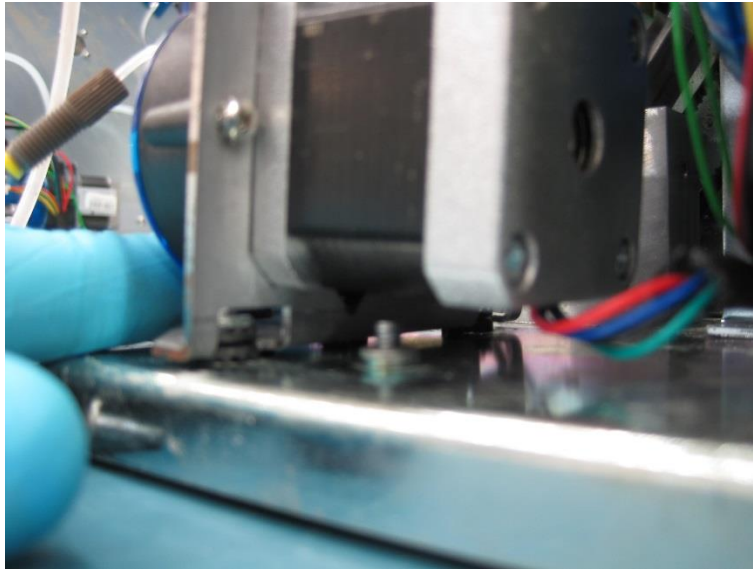

Figure 31
35. Slide the Peristaltic pump back into its original position between the two rubber grommets, Figure 31 and secure it with the screw removed in the earlier step.